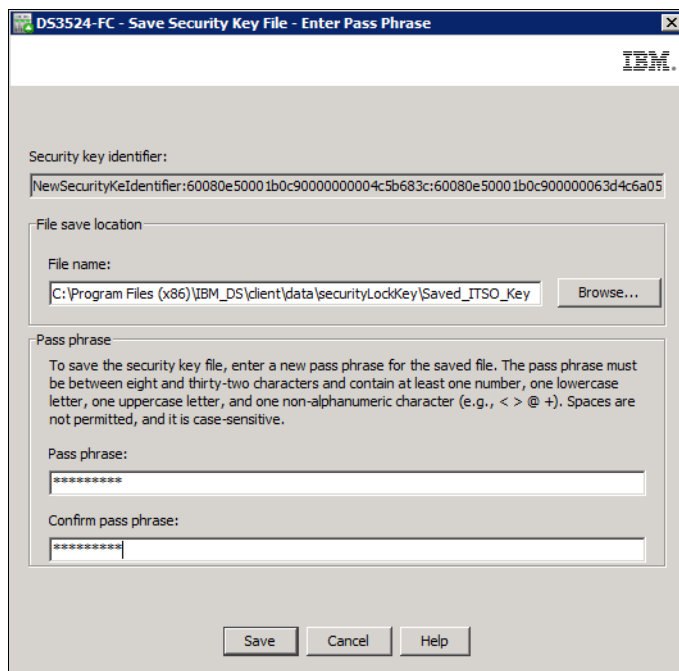

Figure 15-21 Save Security Key File window
2. You will be prompted for the location to store the file and the pass phrase used to create or change the existing security key file, as shown in Figure 15-21. The DS3500 Disk Encryption Manager uses the pass phrase to encrypt the security key before it exports the security key to the security key backup file.